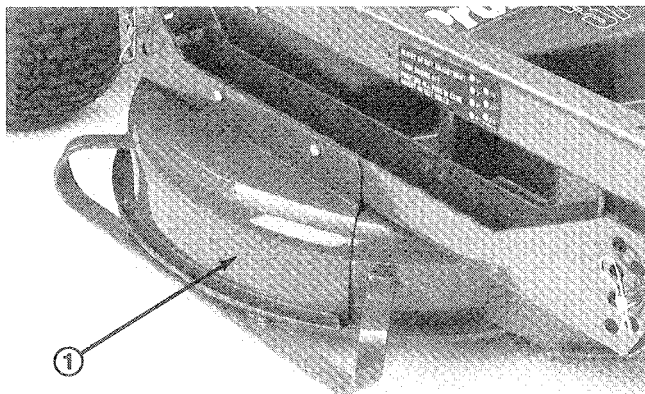

Figure 6
1. Remove (2) capscrews, lockwashers and wing nuts securing discharge cover to deck channel. Remove cover (Fig. 6).